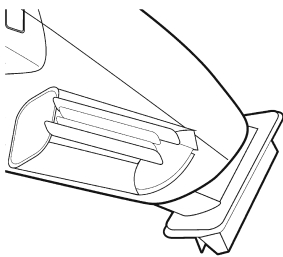

Fig. 5
1. Remove the appliance from the charging station (2).
2. Use the wet vacuum attachment (7) (Fig. 5) and make sure that it is firmly attached.
3. Slide the on/off switch (14) forward to turn the appliance on.
5. Slide the on/off switch (14) backwards to turn the appliance off.